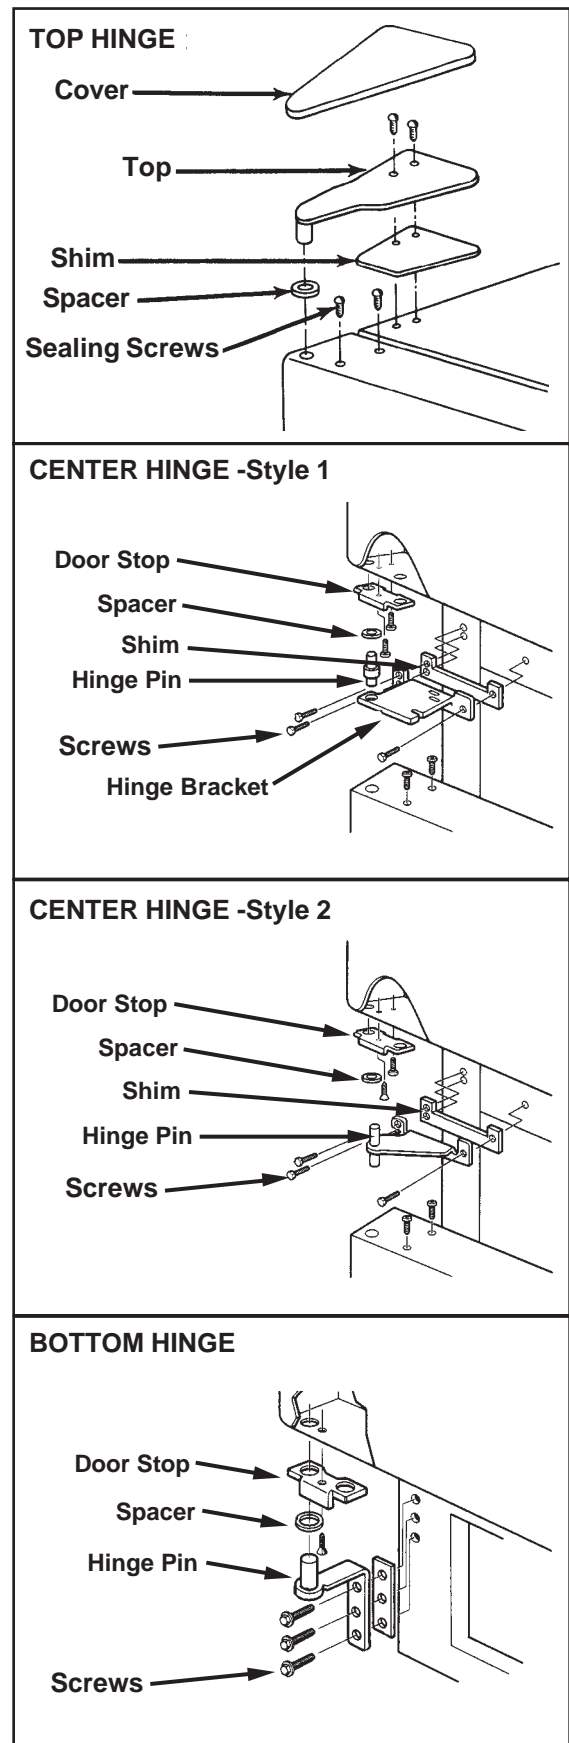

Fig. 61
1. Check for proper door gasket seal by placing an American dime between the inside of the door and the cabinet. The gap should not be less than, or greater, than then diameter of the dime (11/16"). (Fig. 61)
- b) Loosen the center hinge (Fig. 61) and align the refrigerator door with the cabinet edge.
- b) Loosen the top hinge (Fig. 61) and align the top of the freezer door with the top of the cabinet.